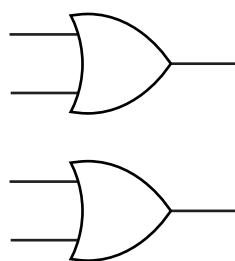

Fig. 16
- (c) Fig. 16 show symbols for two, 2 input OR gates.